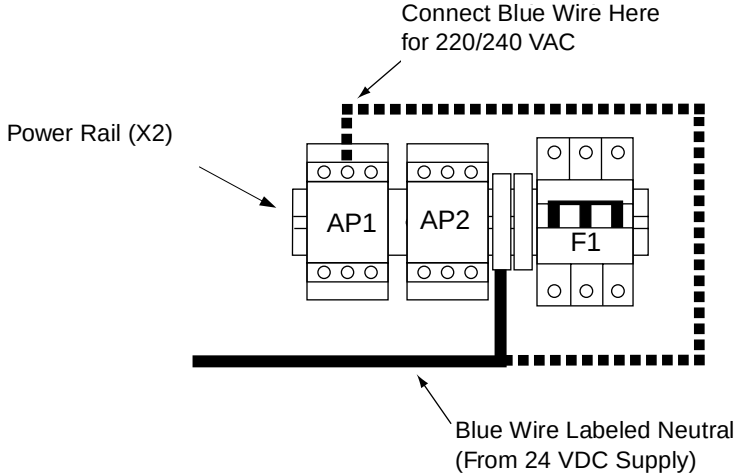

Figure 5-5. Moving Blue Wire From Neutral to AP1.L2 (200-240 VAC)
2. Remove that wire from the neutral terminal and install it in the L2 position on contactor AP1 (X2:AP1.L2), next to the wire that is already installed there. See Figure 5-5 on page 101.